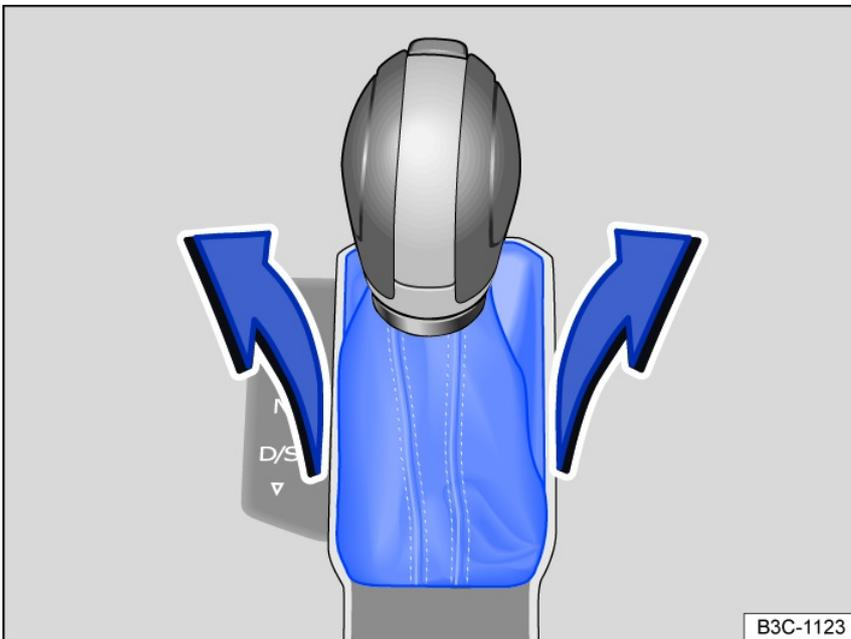

Fig. 120 Remove the cover on the shift gate.
- Pull the cover near the selector lever boot upward carefully with the wires connected *fig. 120*.